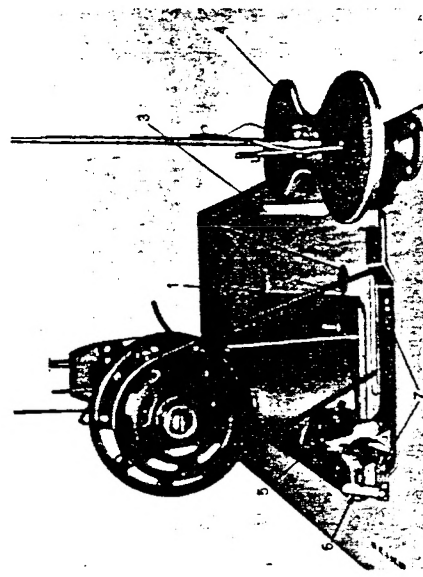
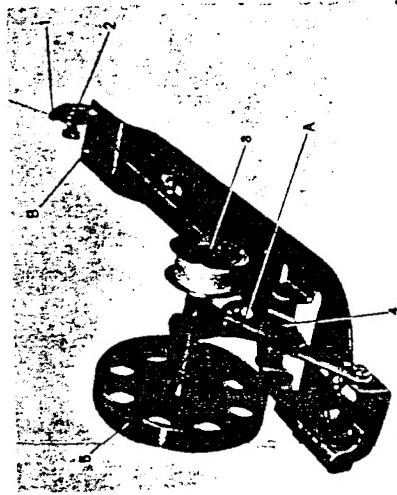

Fig. 2 To install the machine on the table
Fig. 15
WINDING BOBBINS (Figs. 2 and 15)
The bobbin winder is mounted on the table top with its pulley (5, Fig. 2) in front of the driving belt so that the pulley will separate from the belt after the bobbin has been wound with sufficient thread, push the bobbin on the bobbin spindle (3 Fig. 15) as far as it will go.
Pass the thread from the thread stand downward through the eye (1, Fig. 15) in the tension bracket.
Then, between and around the back of the tension discs (2 Fig. 15) bring the thread forward toward the bobbin and wind from below in clockwise direction several times around the bobbin. Push bobbin winder lever (4, Fig. 15) downward until the wheel (5) contacts the drive belt and start the machine.
The adjusting screw (A, Fig. 15) can be turned in or out to increase or decrease the amount of the thread wound on the bobbin.
If the thread does not wind evenly on bobbins, loosen the screw (B, Fig. 15) and move the bracket to the right or left as may be required and tighten the screw.